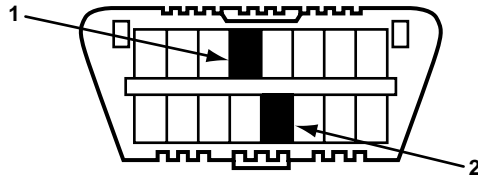

Figure 16-17 DLC3
2. Connect DLC3 terminal Tc to terminal CG (Figure 16-17).
1. Connect a jump wire between terminals Tc and CG of the DLC3 (Figure 16-17).
2. Connect a jumper wire between terminals #4 and #13 of the DLC3 (16 pin OBD-11) (Figure 16-17).